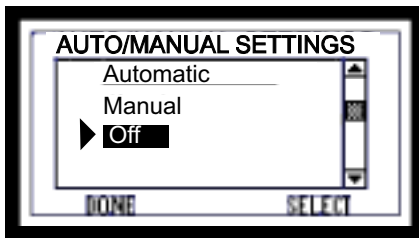

Figure 31.1
1. Set the wall control thermostat to "OFF" on AUTOMATIC/MANUAL SETTING screen and let the appliance completely cool. **Figure 31.1.** The exhaust blower must be off before you can unplug the appliance before servicing.